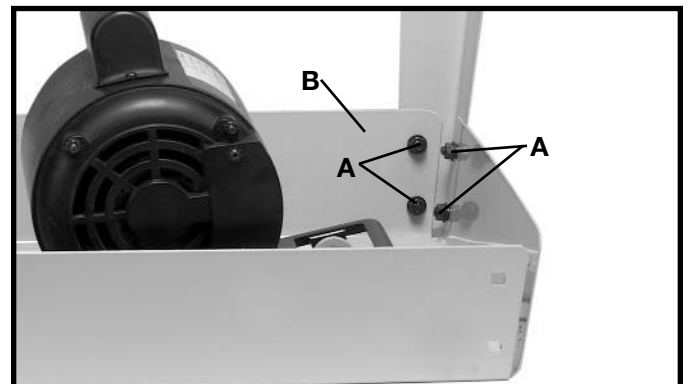

Fig. 13
9. Align the four holes (A) Fig. 13 in the leg with the four holes in the side of the stand top (B).